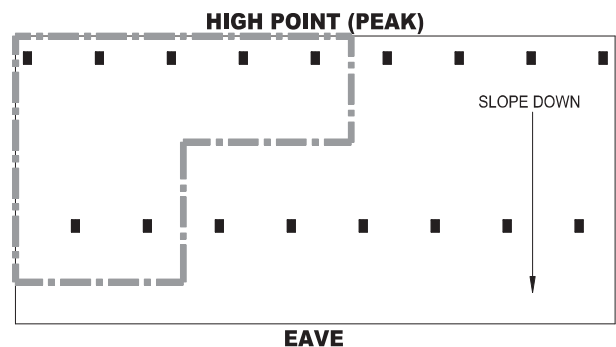

FIGURE 22C
- Calculation #2: Calculate the 7 most hydraulically contiguous DS sprinklers consisting of 5 DS at the high point (peak) and 2 DS sprinklers on the adjacent downslope branchline. See FIGURE 22C.